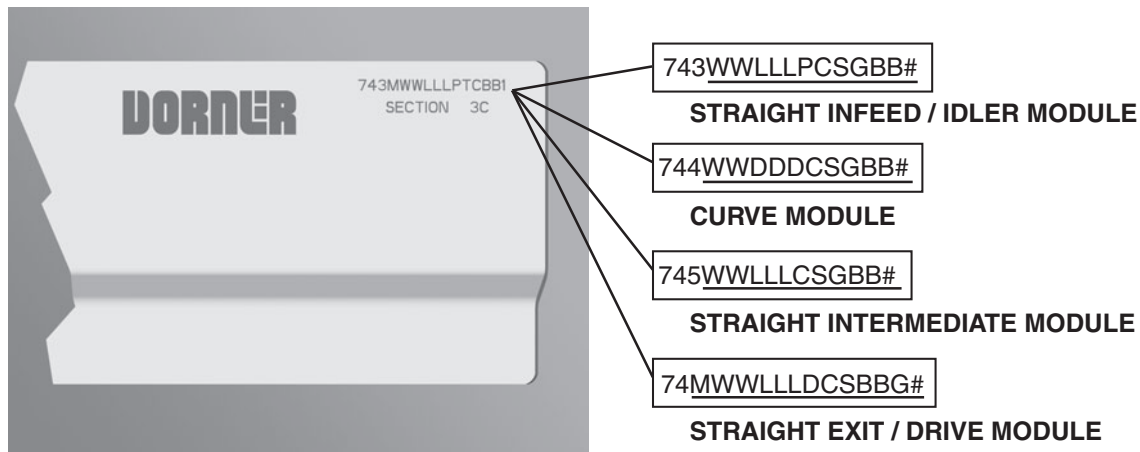

Figure 92
Refer to your serial and model number plate (**Figure 92**). From the model number, determine conveyor width (WW), length (LLL), pulley type (P), stand location, cleaning options (C), stand holes (S), guide profile (G), belt material (BB), degree of turn (DDD), drive/pulley type (D) and module serialized sequence (#).